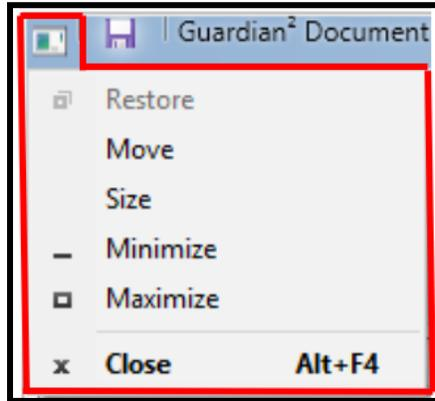

Figure 6
- Window Control Menu (Figure 6)